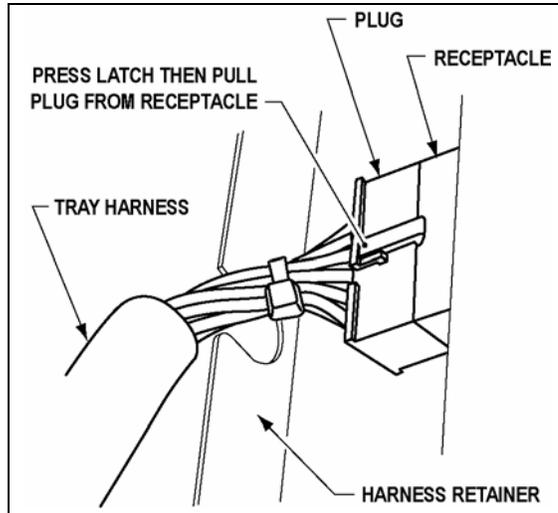

Figure 6a. Tray Harness
2. Disengage the tray harness from its harness retainer on the right side wall. See Figure 6a on page 10. Disconnect the tray plug from its receptacle on the right side wall.
8. Re-engage the tray harness into its harness retainer. See Figure 6a.
2. Locate the harness retainer on the right side wall. See Figure 6a. Pull the tray harness out of the harness retainer.
6. Extend the slides all the way to the front and reinstall the tray. Install the four (4) nuts underneath the drawer slides.
7. Reattach the tray harness to its harness retainer on the right side wall. Connect the tray plug to its receptacle on the right side wall. See Figure 6a on page 10.